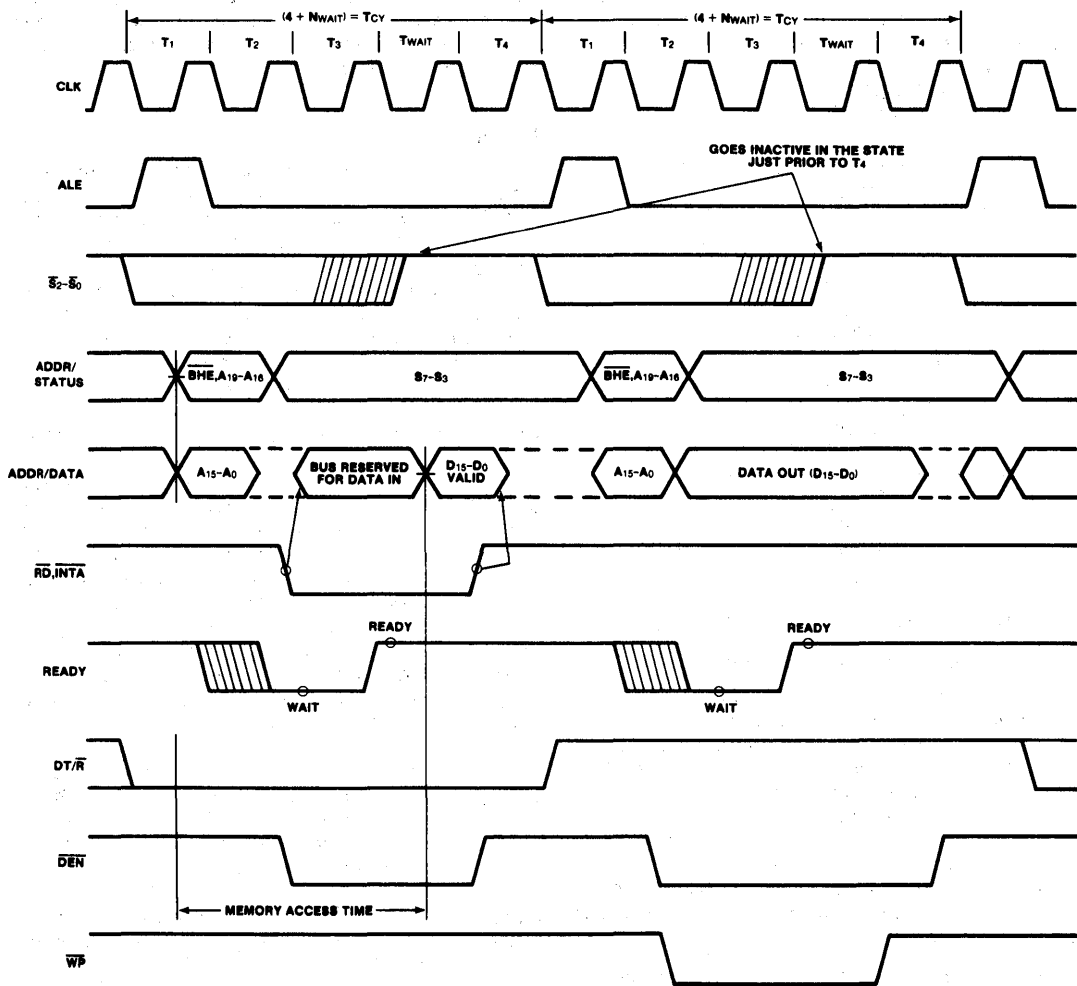
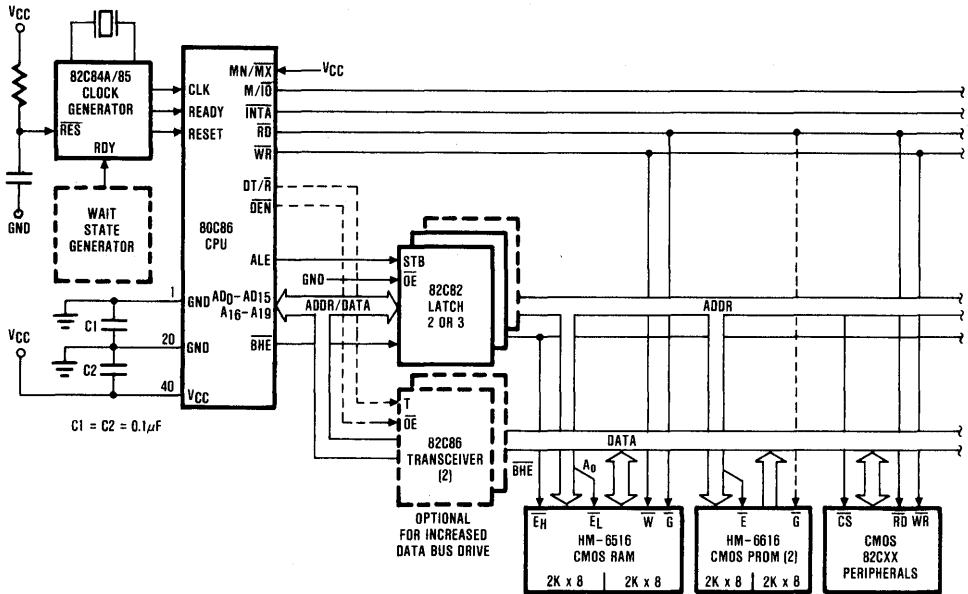

FIGURE 3. BASIC SYSTEM TIMING
FIGURE 6A. MINIMUM MODE 80C86 TYPICAL CONFIGURATION
The demultiplexed mode requires two 82C82 latches (for 64K addressability) or three 82C82 latches (for a full megabyte of addressing). An 82C86 or 82C87 transceiver can also be used if data bus buffering is required. (See Figure 6a.) The 80C86 provides  $\overline{DEN}$  and  $\overline{DT/\overline{R}}$  to control the transceiver, and ALE to latch the addresses. This configuration of the minimum mode provides the standard demultiplexed bus structure with heavy bus buffering and relaxed bus timing requirements.
Each processor bus cycle consists of at least four CLK cycles. These are referred to as  $T_1$ ,  $T_2$ ,  $T_3$  and  $T_4$  (see Figure 3). The address is emitted from the processor during  $T_1$  and data transfer occurs on the bus during  $T_3$  and  $T_4$ .  $T_2$  is used primarily for changing the direction of the bus during read operations. In the event that a "NOT READY" indication is given by the addressed device, "Wait" states (TW) are inserted between  $T_3$  and  $T_4$ . Each inserted wait state is the same duration as a CLK cycle. Periods can occur between 80C86 driven bus cycles. These are referred to as "idle" states ( $T_1$ ) or inactive CLK cycles. The processor uses these cycles for internal housekeeping and processing.
Typical system configurations for the processor operating in minimum mode and in maximum mode are shown in Figures 6A and 6B, respectively. In minimum mode, the MN/MX pin is strapped to  $V_{CC}$  and the processor emits bus control signals (e.g.  $\overline{RD}$ ,  $\overline{WR}$ , etc.) directly. In maximum mode, the MN/MX pin is strapped to GND and the processor emits coded status information which the 82C88 bus controller used to generate MULTIBUSTM compatible bus control signals. Figure 3 shows the signal timing relationships.